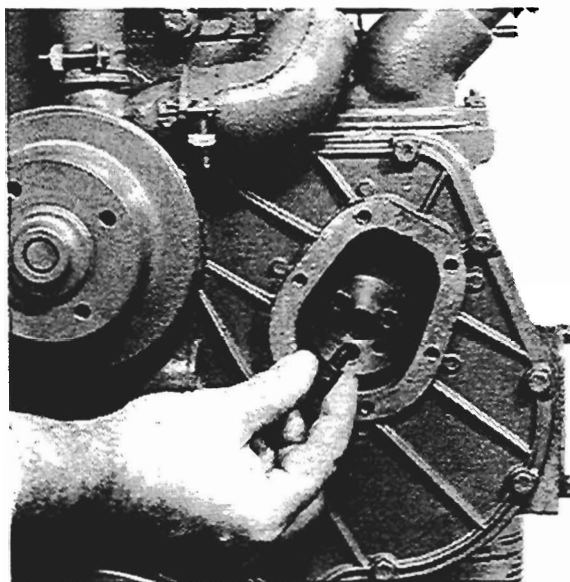

Fig. P8
4. Remove the three setscrews and washers or nut which secure gear to fuel pump shaft (see fig. P8). Do not drop them into timing case. For gears with a tapered drive shaft bore, use puller tool PD155B and adaptor PD155B-5. When gear is loose, ensure it does not drop on aluminium lug in timing case as this can break and fuel pump gear can come out of mesh with idler gear. If gears come out of mesh it will change the fuel pump timing.